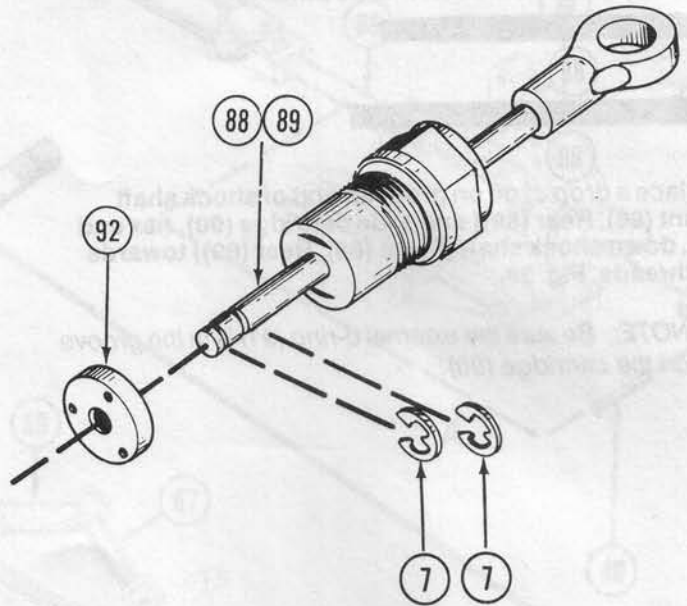

FIG. 40
3. Snap 1/8" E-clip (7) into the groove closest to the threads in the shock shaft [Front (88), Rear (89)] Fig. 40.
4. Clean sprue off of piston (92) and slide piston (92) onto shaft (88) (89) from grooved end until it rests against the E-clip (7). Fig. 40.
* NOTE: Wide ends of holes in piston (92) face grooved end of shaft (88) (89).
5. Secure piston (92) in place with another 1/8" E-clip (7). Fig. 40.